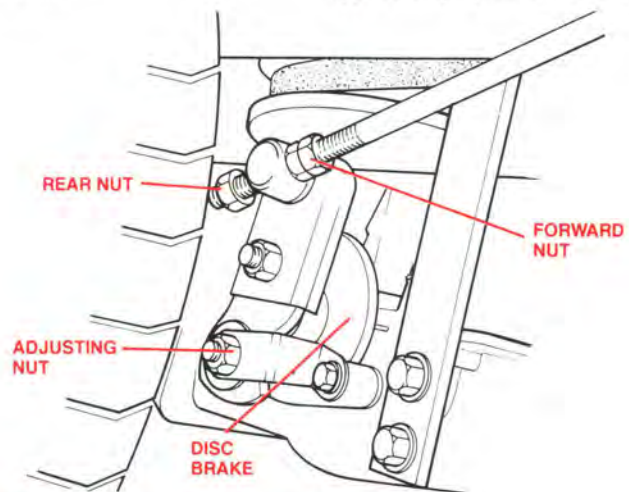

Figure 4. Tractor Brake Adjustment.
2. Find the adjusting nut at the Transaxle brake lever pivot, and note the two nuts on the brake rod, (See figure 4). The Transaxle's brake lever will apply the brake when moved in either direction. However on the Westwood Garden Tractor the brake is applied only by the forward nut